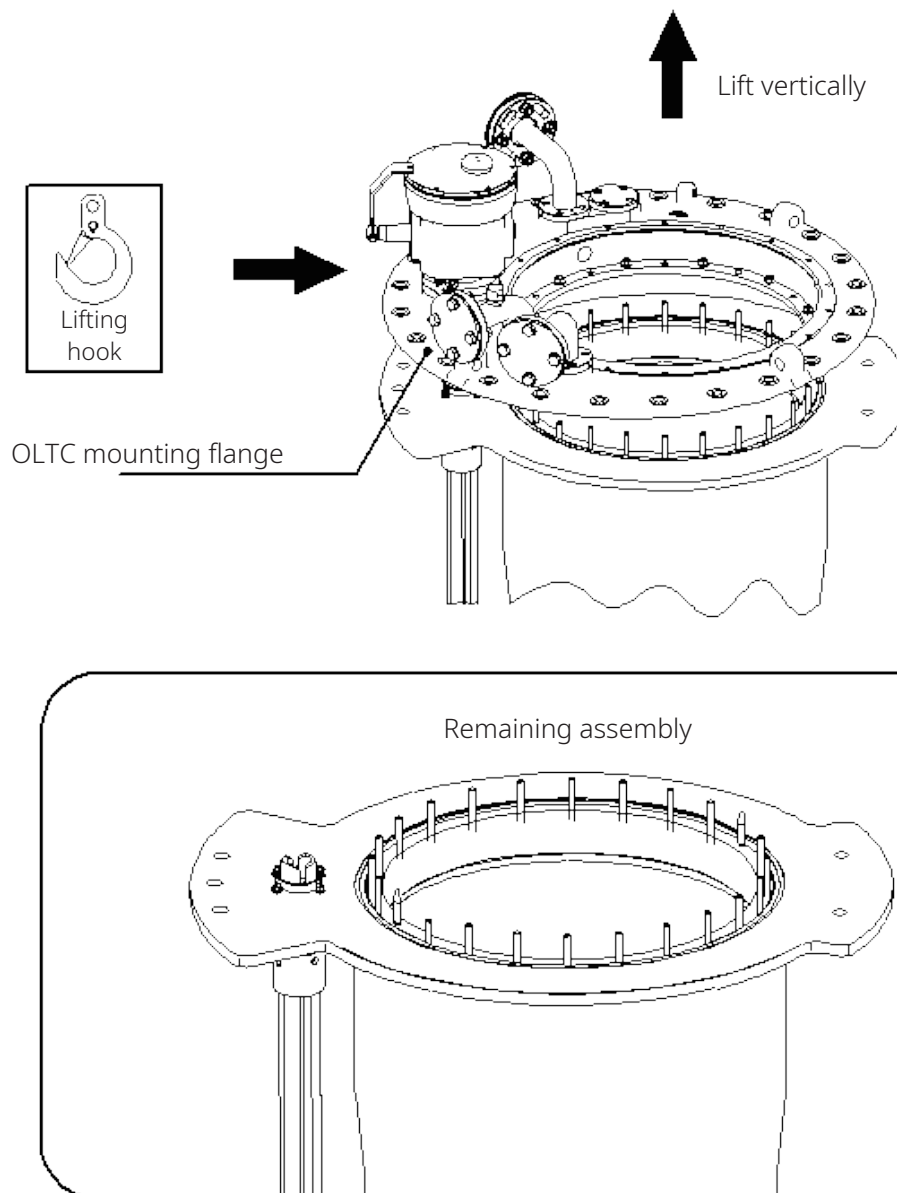

Figure 5-7 Lifting the OLTC Mounting Flange
2. Lift the mounting flange off the support flange (see Figure 5-7)..